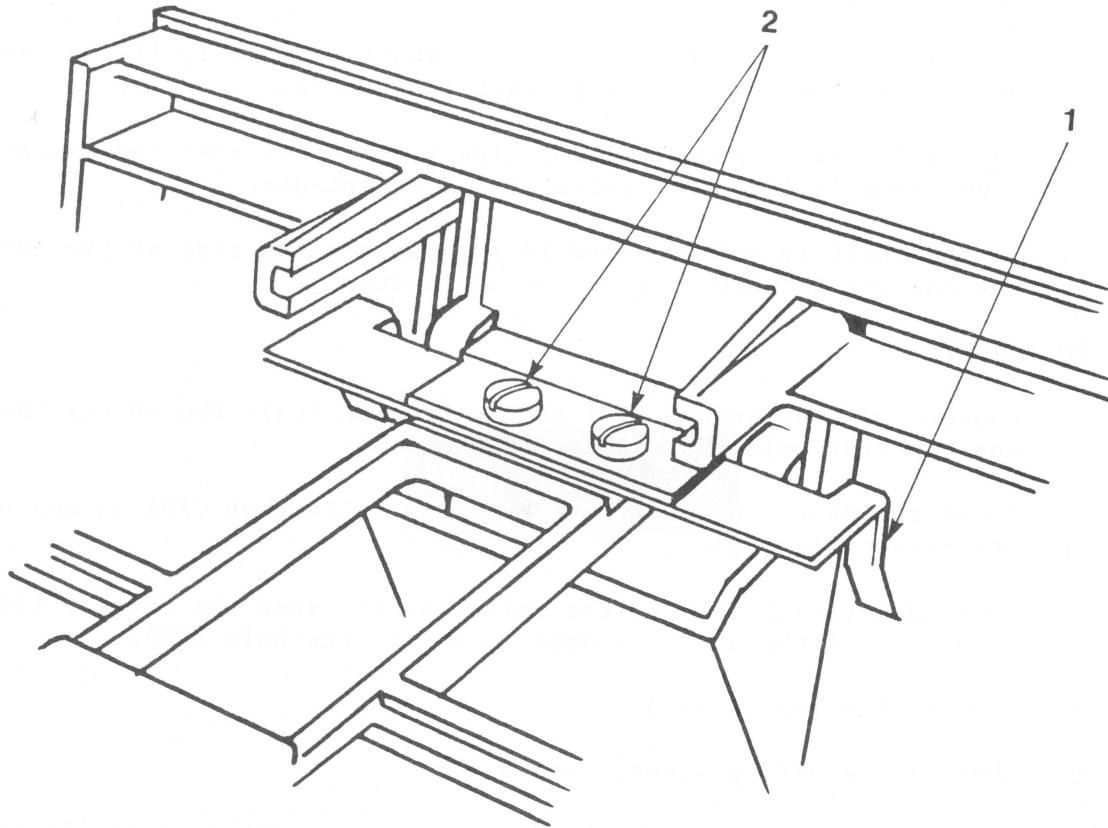

FIGURE 3
3. Loosen the two mounting screws (Fig. 3, #2) and center the door in its opening.
6. While gently closing the drive door, observe the two guide bars (Figure 3, #1), which are visible when viewed from the back of the drive looking towards the front. There should be no binding between the guides and the tool.